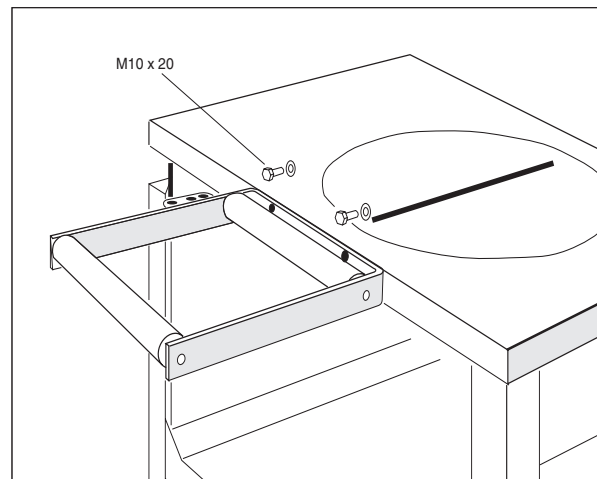

Fig. 5
- Mount short work support as shown in fig. 5.